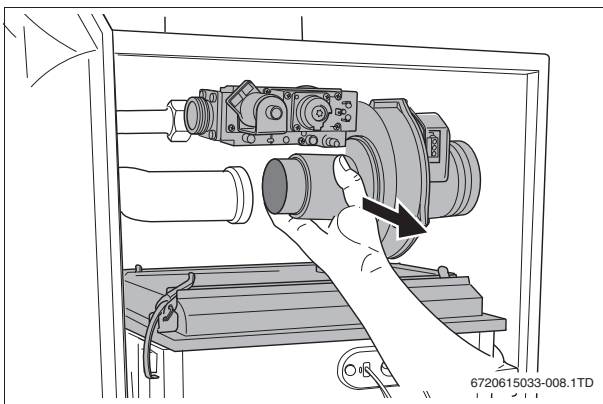

Fig. 7 Removing the burner cover with the gas/air unit
- ▶ Remove the burner cover together with the fan unit and the gas valve (→ fig. 7).